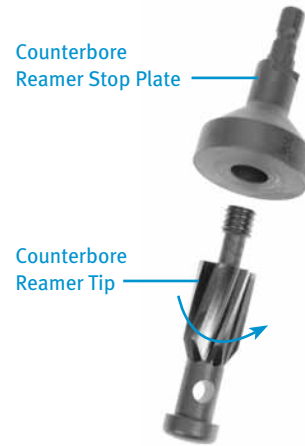

Fig. 8
- Thread the Counterbore Reamer Tip into the Counterbore Reamer Stop Plate (**Fig. 8**).